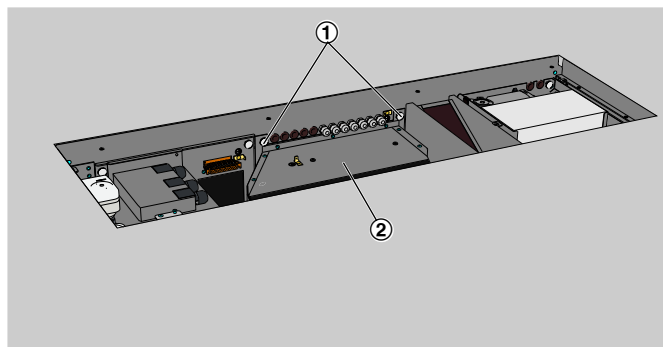

Fig. 28
7. ▶ Remove the knurled screws (Fig. 28/1) and the air deflection plate (Fig. 28/2).